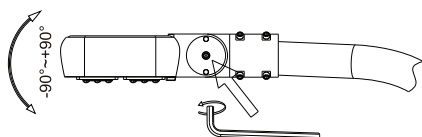

Figure 4
4. Unscrew the screws of side cover, open the cover, loosen adjustable screw adjust viewing angles and tighten adjustable screw. (figure 4) (Please make sure the adjustable screw is tightened firmly)